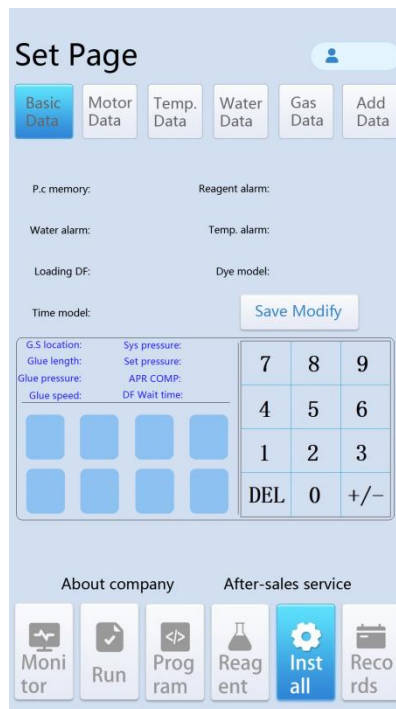

Figure 13 Setup interface page
Setting interface : used to configure the system parameters of the device, as shown in Figure 13. The specific configuration method of the system parameters is as follows
1. Basic parameters : the settings of basic parameters are shown in Figure 13, and the specific functions are described as follows